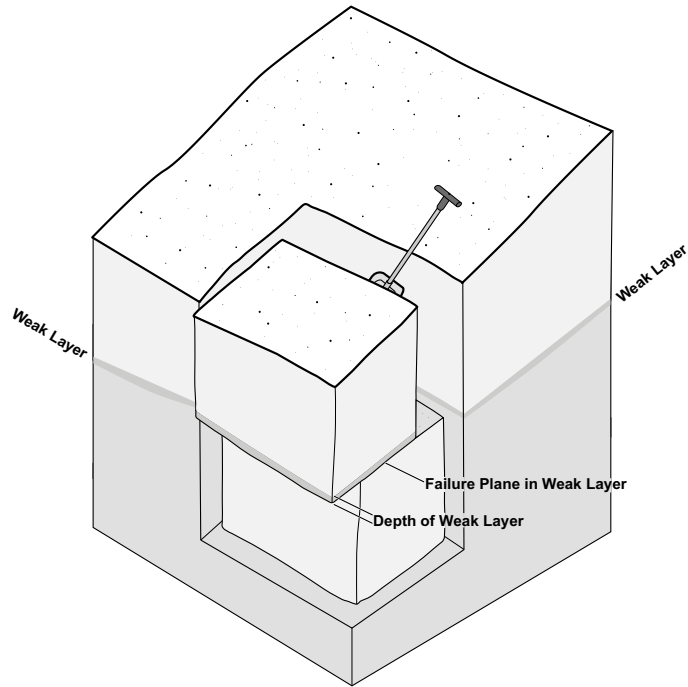

Figure 1-8. Weak Layer Giving in a Shovel-Shear Test.
- Insert a shovel or ski behind the column and exert steady pressure while pushing downward. Look for weak layers separating (see Figure 1-8).